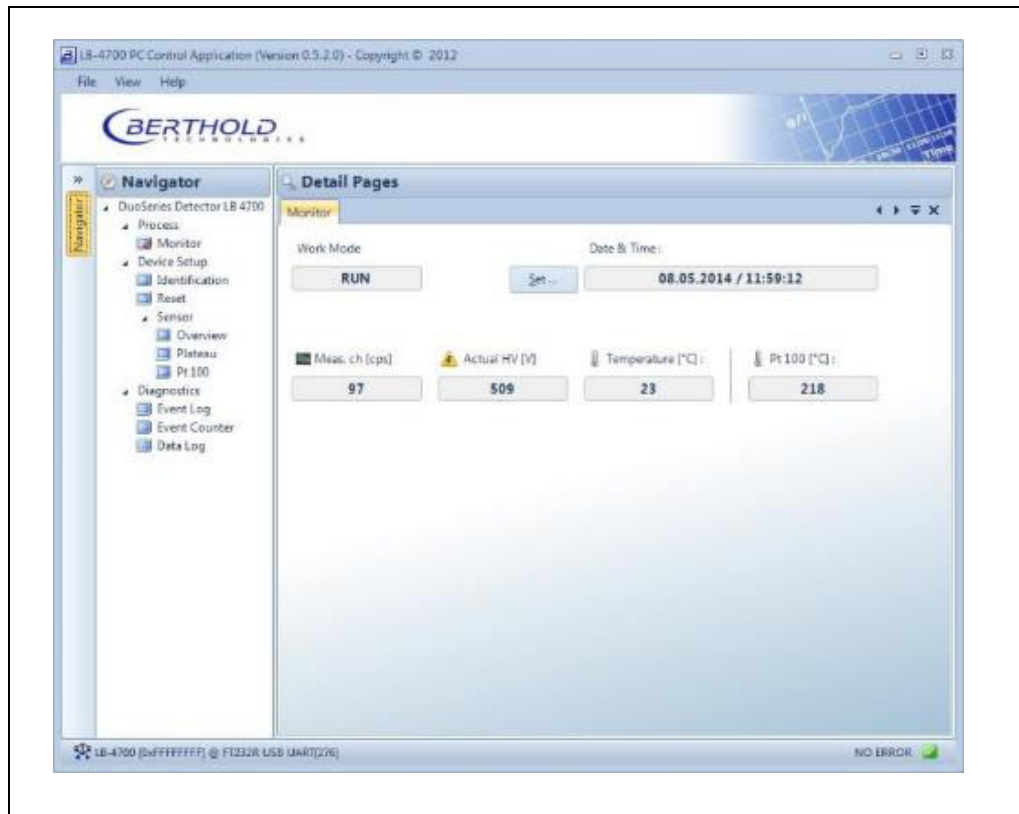

Fig. 28 Home Page, Operating Software "LB-4700 PC"
3. Connect the detector to the 2-pin FSK connector of the detector service modem (Fig. 28 item 4).
4. Connect the detector service modem via the supplied USB cable (Fig. 28 item 3) to an available USB port on your PC.